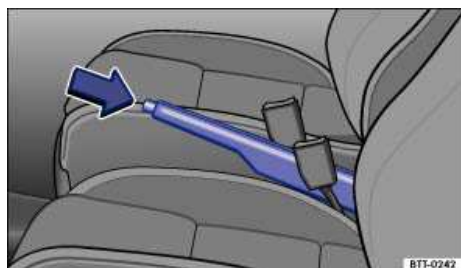

Fig. 122 Between the front seats: Parking brake.
- Pull the lever up slightly and press the release button ⇒ fig. 122 (arrow).